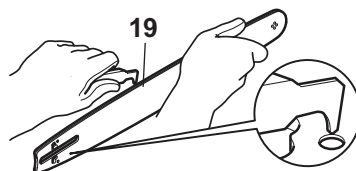

Fig. 45
3. Check the drive sprocket (29). If it is worn or damaged due to strain, have it replaced by an authorised service agent.
4. Clear residue from the rails on the guide bar (19) by using a screwdriver, putty knife, wire brush or other similar tool. This will keep the oil passages open to provide proper lubrication to the guide bar (19) and saw chain (20) (Fig. 45).